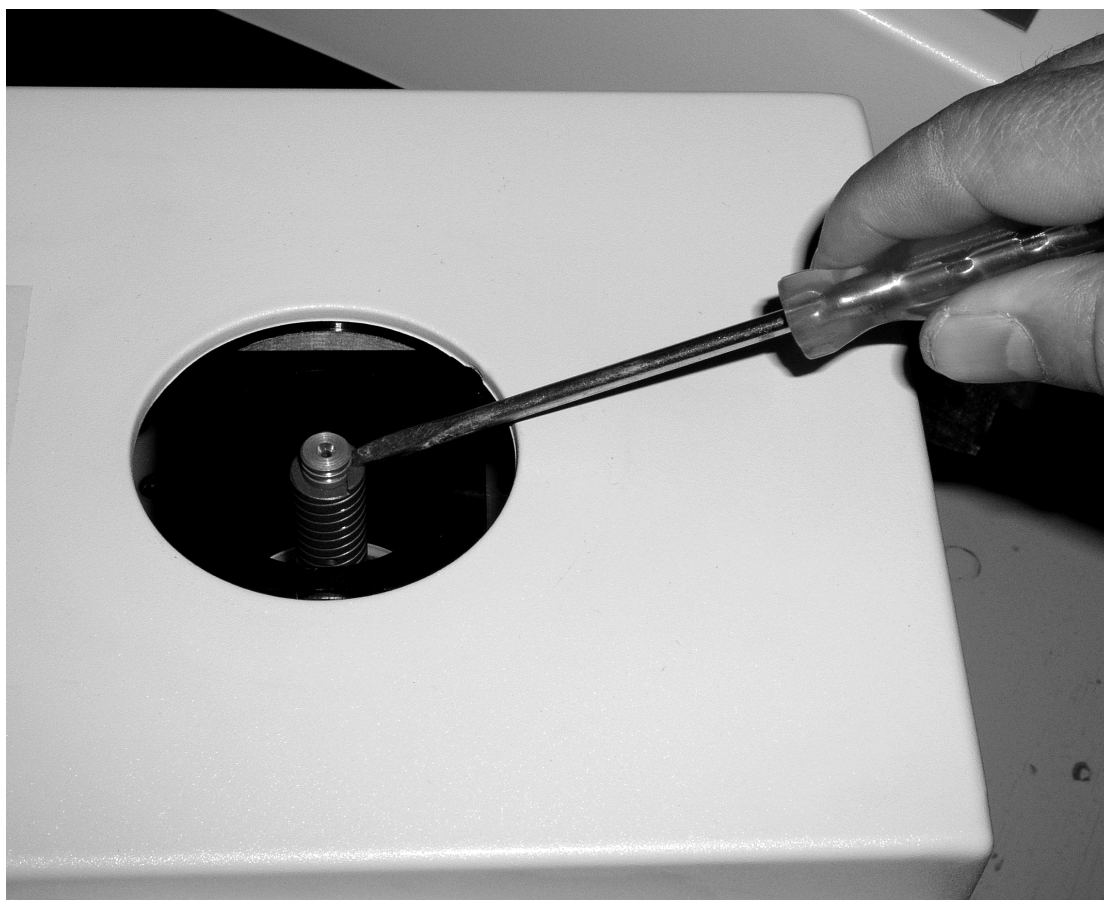

Figure 7
3. If a capillary tube is broken in the holder, shut down the power first. After the oven is cooled down, follow the illustration in Figure 7. Dismantle the capillary holder from the oven, and remove the glass scrap with a needle (accessory). Then put the holder back in the oven. When insert the holder, make sure the holder is fastened with the oven. Finally, check the instrument whether it works normally. Contact the technical support department of our factory in case of any unfamiliar situations.